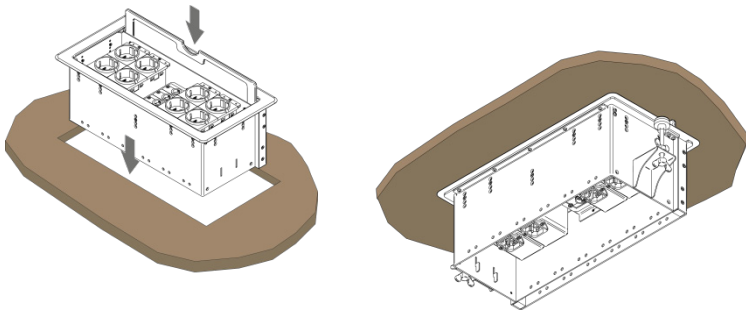

Figure 4: Inserting TBUS-18xl into the Prepared Opening
2. Carefully insert the unit into the prepared opening (see Figure 4).
5. Tighten both mounting butterfly screws upward until they reach the table surface (from underneath). Tighten firmly (see Figure 4).